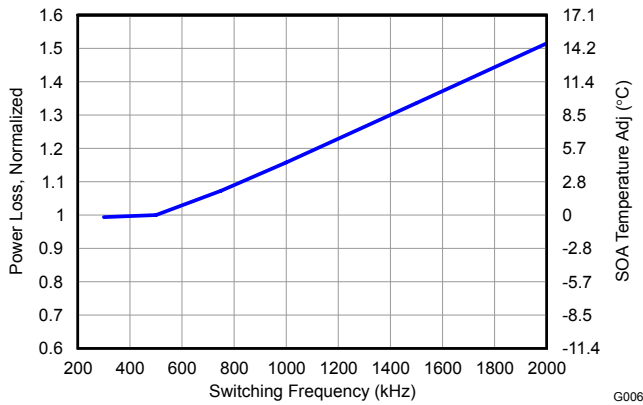

Figure 12. Normalized Power Loss vs Frequency
- Normalized Power Loss for switching frequency  $\approx$  1.09 (Figure 12)
- SOA adjustment for switching frequency  $\approx$  2.7 $^{\circ}$ C (Figure 12)